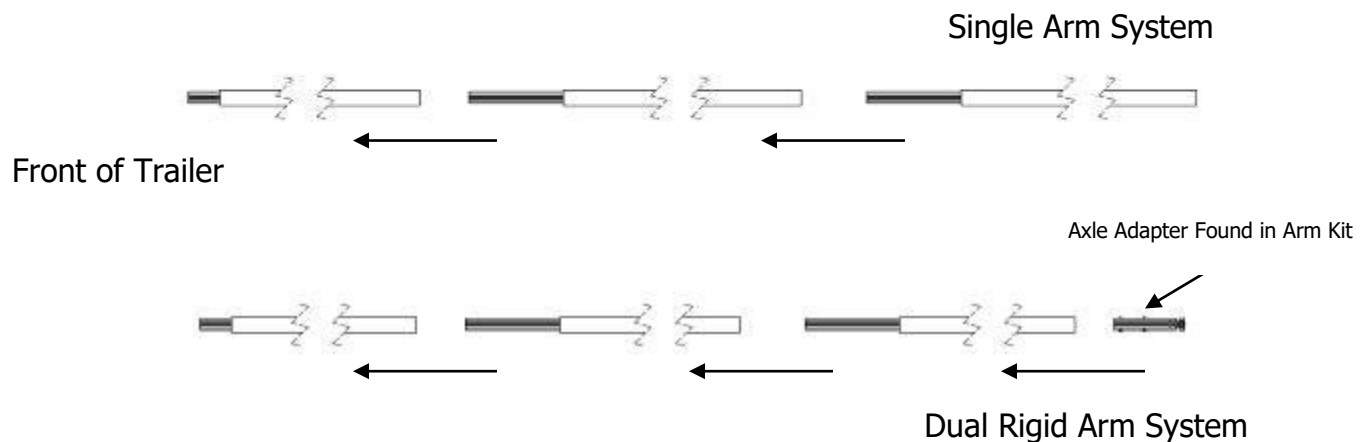

Figure 11
1. Layout the three axle pieces, as shown below in figure 11. (Try to get the motor adapter end of the axle pointing toward the front of the trailer.)
2. For single arm kits slide the three pieces together. If you have a dual rigid arm kit there will be 3 axle sections and an axle adapter that goes in the rear (found in the arm kit.) Make sure that the clip groove in the axle lines up in all sections. Refer to figure 11.